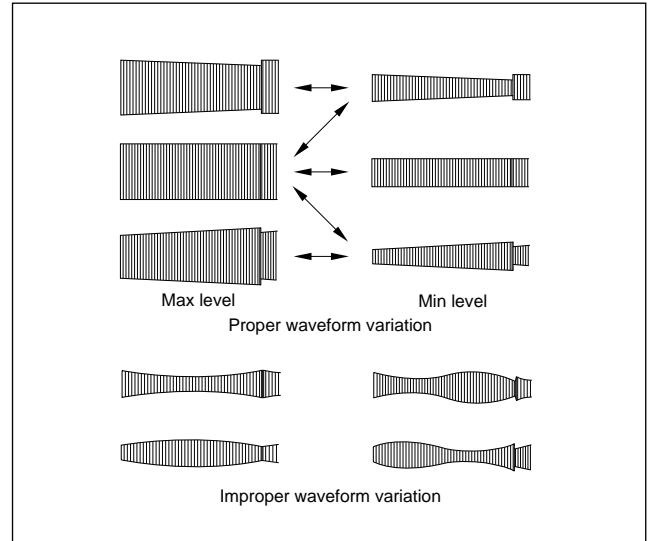

Fig. 2-3-1a
- (1) Play back the alignment tape (A1).
- (2) Apply the external trigger signal to D.FF (E), to observe the V.PB FM waveform at the measuring point (D).
- (3) Press the channel buttons (+, -) simultaneously to enter the manual tracking mode. This also brings tracking to the center (centre).
- (4) Make sure that there is no significant level drop of the V.PB FM waveform caused by the tracking operation, with its generally parallel and linear variation ensured. Perform the following adjustments when required. (See Fig. 2-3-1a.)
- (5) Reduce the V.PB FM waveform while pressing the channel buttons (+, -) during playback. If a drop in level is found on the left side, turn the guide roller of the pole base assembly (supply side) with the roller driver to make the V.PB FM waveform linear.